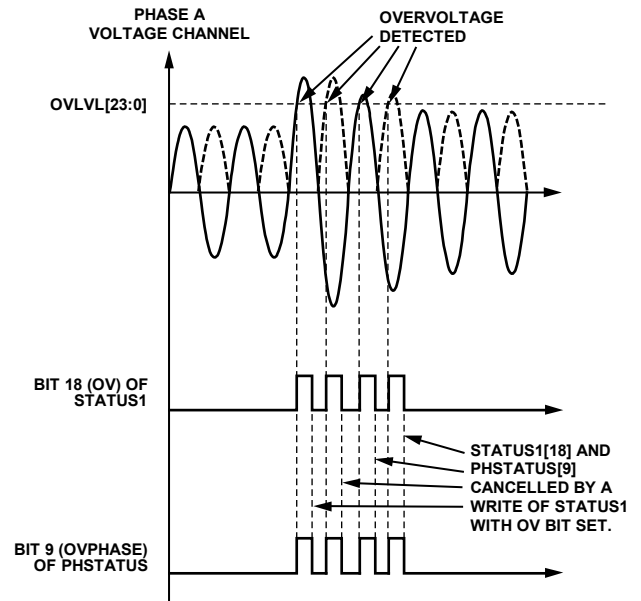

Figure 53. Overvoltage Detection, Phase A
Next, Bit 18 (OV) in the STATUS1 register and all Bits[11:9] (OVPHASE[2:0]) in the PHSTATUS register are cleared. Set the $\overline{\text{IRQ1}}$ pin to high by writing to the STATUS1 register with the status bit set to 1. See Figure 53 for overvoltage detection in Phase A voltage.